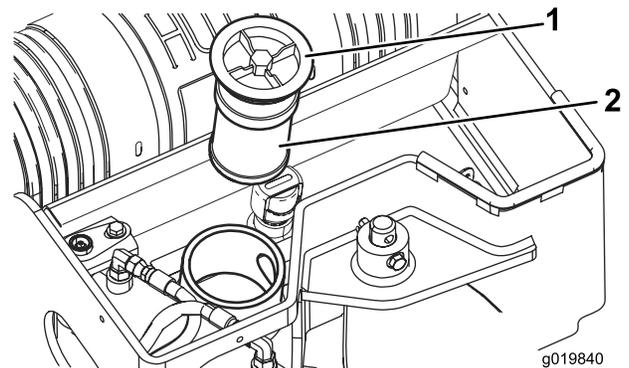

Figure 59
5. Remove and discard the old filter (Figure 59).
6. Install the replacement hydraulic filter and filler cap (Figure 59) and torque bolt on top to 21 to 25 N-m (200 to 240 inch-lb).
6. Remove the hydraulic tank filler cap and filter (Figure 59).
- Install the hydraulic filter and filler cap (Figure 59) and torque bolt on top to 21 to 25 N-m (200 to 240 inch-lb).